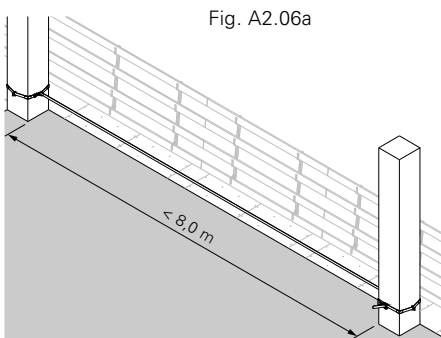

Fig. A2.06a
- work and safety scaffolding (Fig. A2.06a)